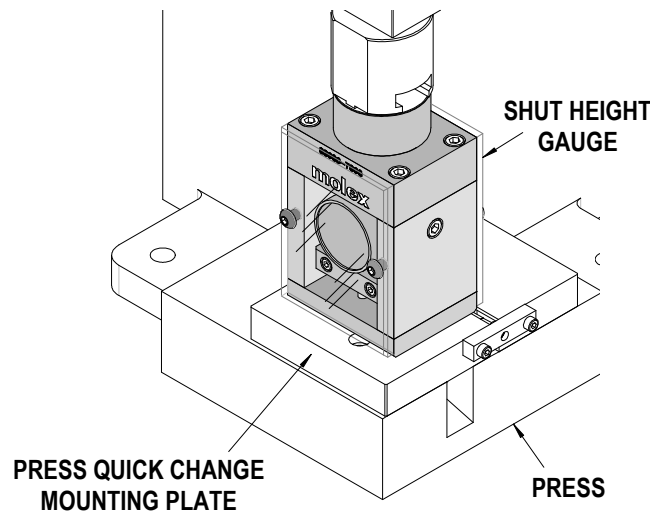

Figure 2-1
The shut height for the Crimp Module is 135.80mm (5.346"). The shut height for the crimp press is calibrated using a Shut Height Gauge. See Figure 2-1. The gauge is designed to apply the proper load at 135.80mm (5.346") shut height. Molex offers an industry standard shut height gauge (order number 63800-7900) that will fit in the TM-3000 and TM-4000 crimp presses. It is recommended that the crimp press shut height be checked regularly.
3. Place the shut height gauge onto the press quick change mounting plate. Align the gauge to the ram as shown in Figure 2-1.